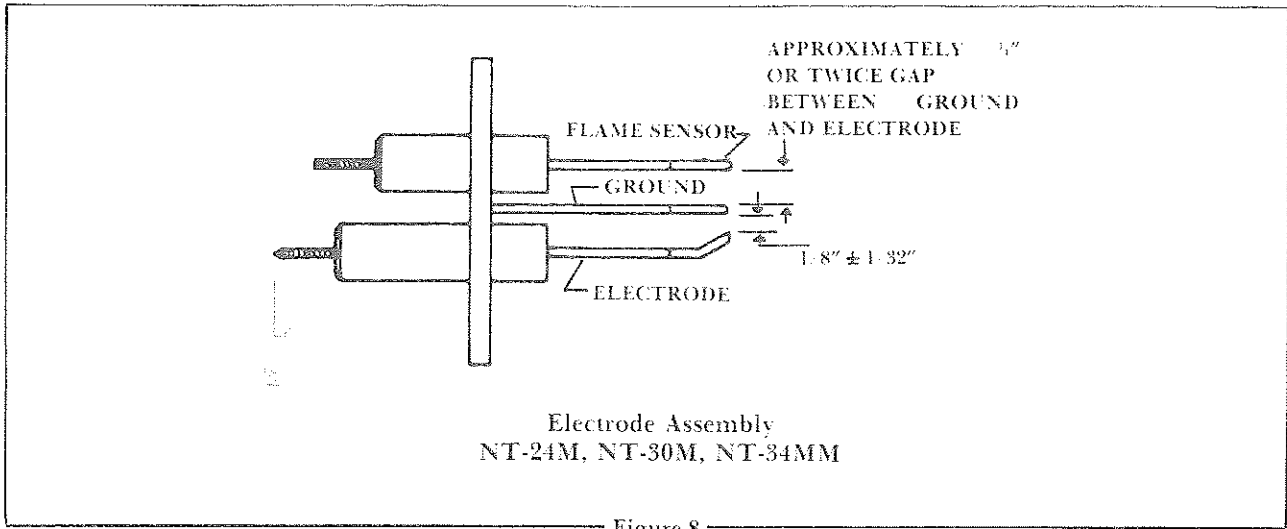

Figure 8
- g. Insure that the gap between electrode and ground is always $\frac{1}{8}$ ". The gap between the ground and the flame sensor should be approximately twice the gap between electrode and ground to insure no sparking to sensor. Sparking to sensor will damage module board. (See Figure 8.)
- d. Electrode wire does show continuity through it - Check electrode gap. (See Figure 8.)
- a. Check to be certain that the electrode spark is not sparking against the flame sensor portion of the electrode assembly. (See Figure 8 for correct gapping.)